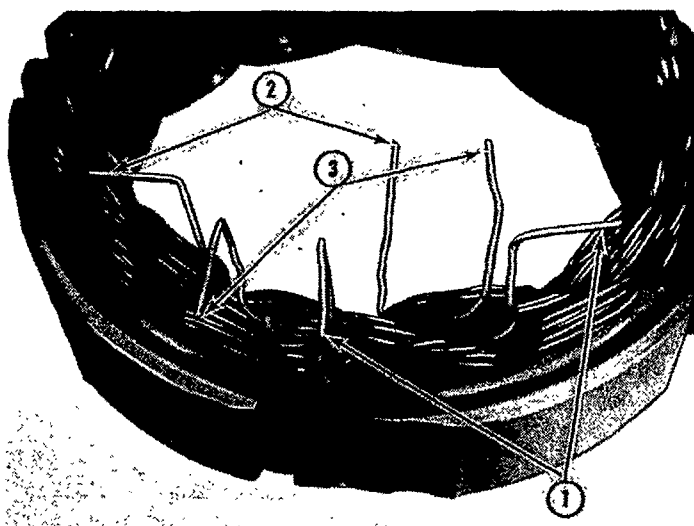
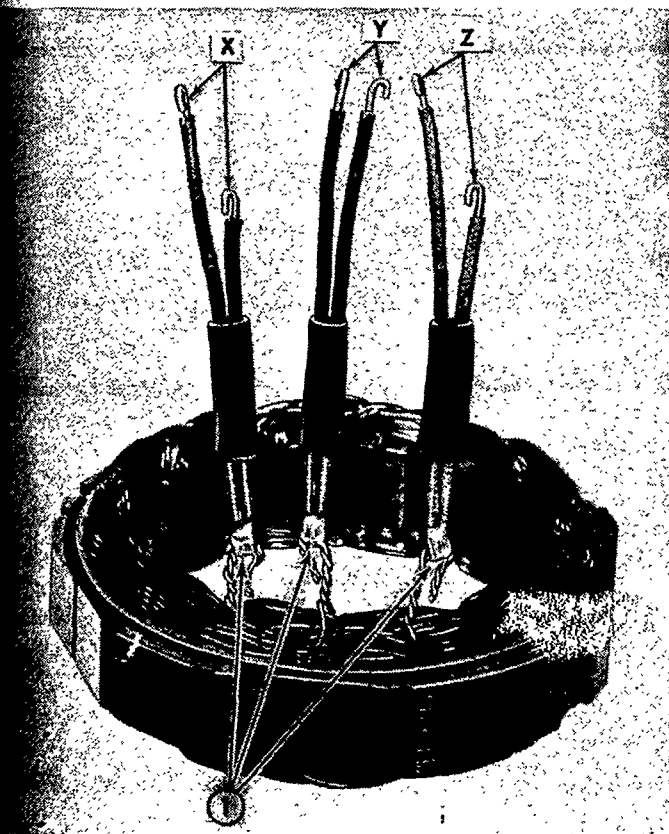

Figure 49
Figure 48
3. Unsolder the diode connecting leads from the stator junctions, Figure 48. Separate the leads as shown in Figure 49.